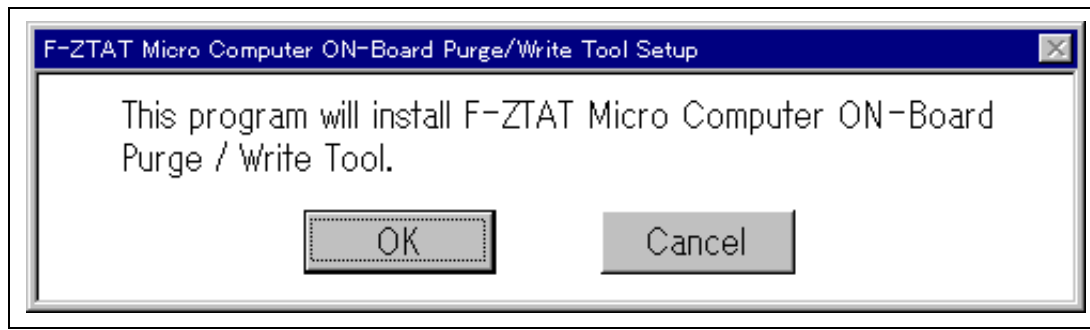

Figure 3.1 Installation Start Message
3. The message shown in Figure 3.1 is displayed on the screen. Click "OK" to start the installation process, or "Cancel" to abort installation.